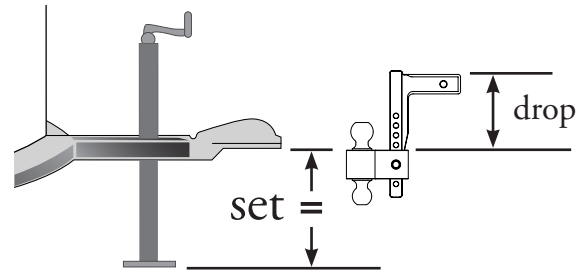

Figure 2
5. Measure from the ground to the bottom of the coupler on the trailer, then pin the Ball Holder (#4) into place on the Drop Bar at that height, with the correctly sized hitch ball for your trailer coupler facing up. **See Figure 2.** You may need to invert the Drop Bar and use it in the rise position to reach the correct ball height for your particular trailer.